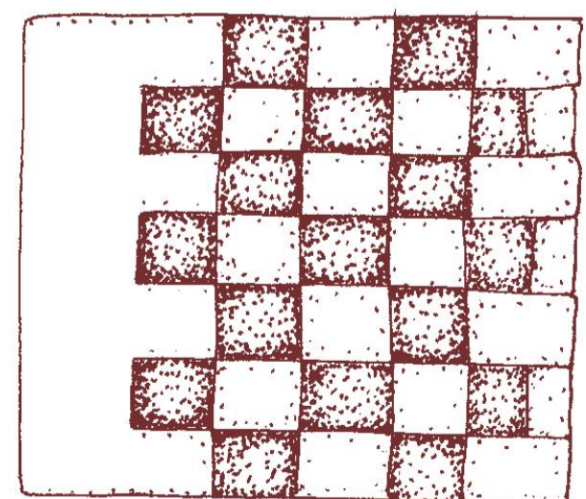

Figure 3
**8** End by bending the ends of the copper foil to hold the last row in place. Cut the woven paper ends to the edge of the copper foil. Bend the attached side around to the back if the grid needs to be reduced in size. Cut the paper edge sides to fit in the copper sheeting pieces and to be properly positioned to expose the weaving through the window you have cut (see figure 3).